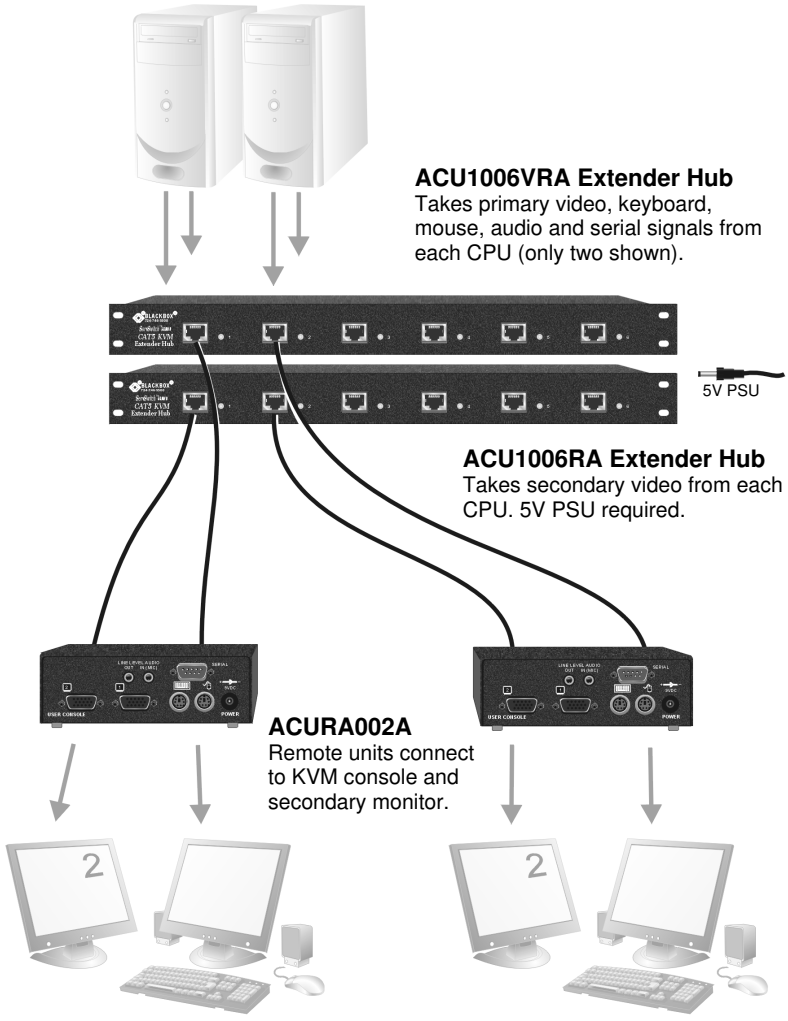

Figure 13 **Dual-monitor consoles with serial and audio extension**
- Six dual-monitor consoles with serial and audio (Figure 13).